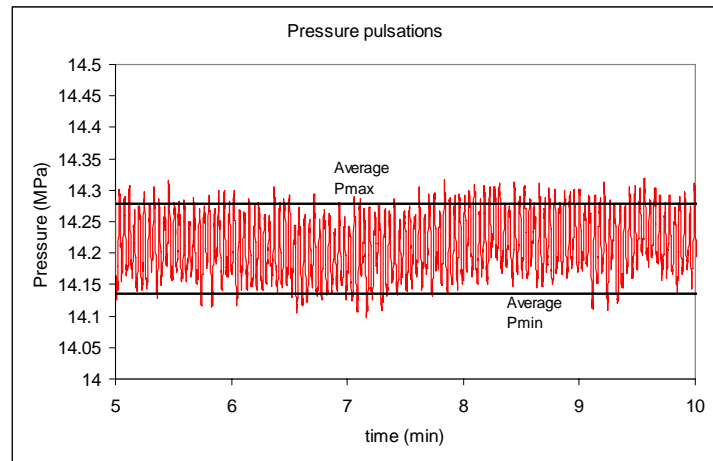

Fig. 5. Pressure signal with lines indicating Pmax and Pmin.
8. When using a line recorder determine the average maximum and minimum pressure values at 1 mL/min, as depicted in figure 5 . Draw straight parallel lines through minimum and maximum. Subsequently, determine c ($c = P_{max} - P_{min}$).